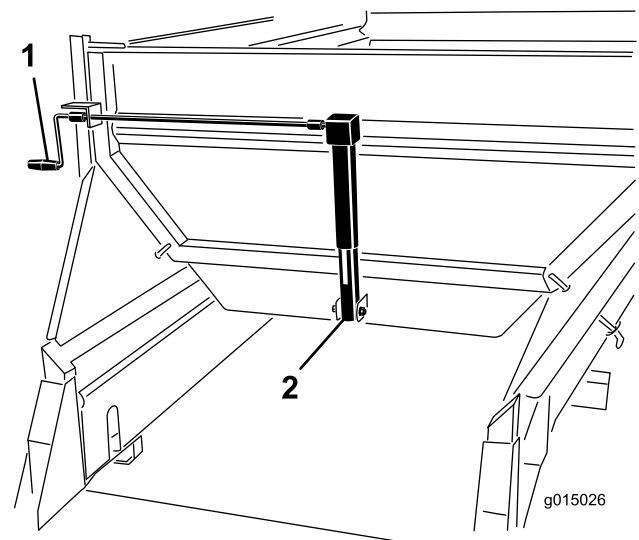

Figure 45
Rotate the crank to adjust the gate (Figure 45) until the arrow aligns with the center of the desired color (yellow for this example).
1. Rotate the crank to adjust the gate (Figure 45) until the arrow aligns with the center of the desired color (yellow for this example).